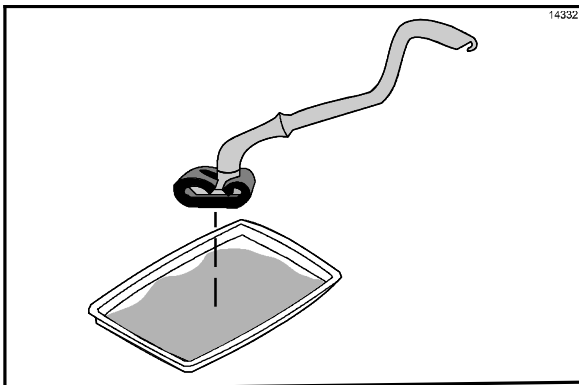

Figure 22
13. Dip the Kay Grill Cleaning Pad Holder into the grill cleaner. (See Figure 22.)